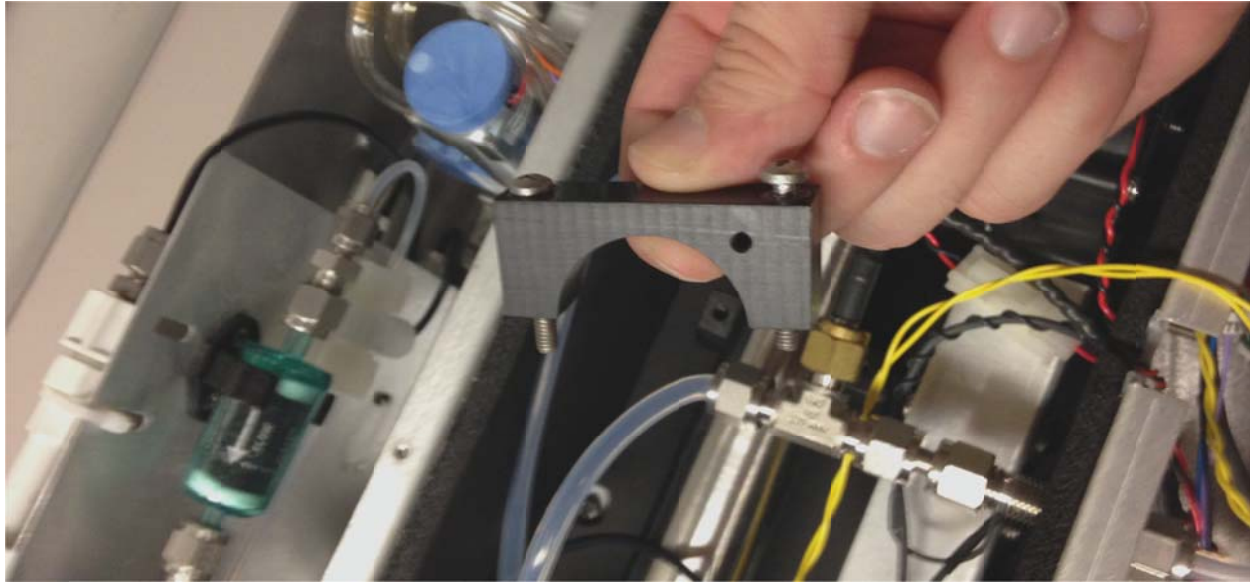

Figure 4
4. Remove the two mounting brackets holding the sensor assembly to the chassis as shown in Figure 4.